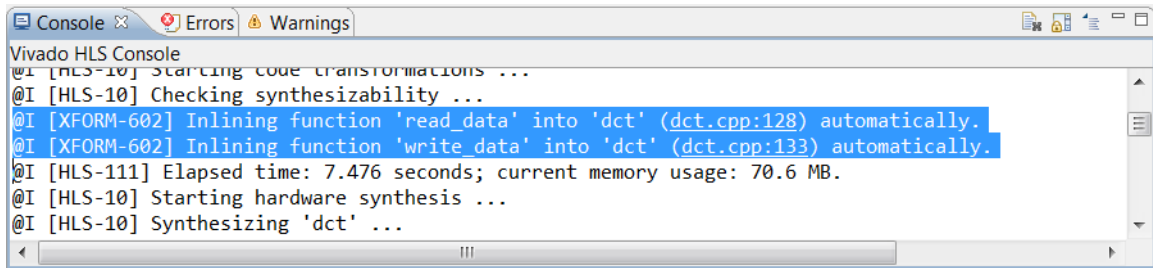

Figure 6-5: Automatic Optimization Reporting
- Figure 6-5 shows that, during synthesis, these blocks were automatically inlined (the hierarchy was removed).